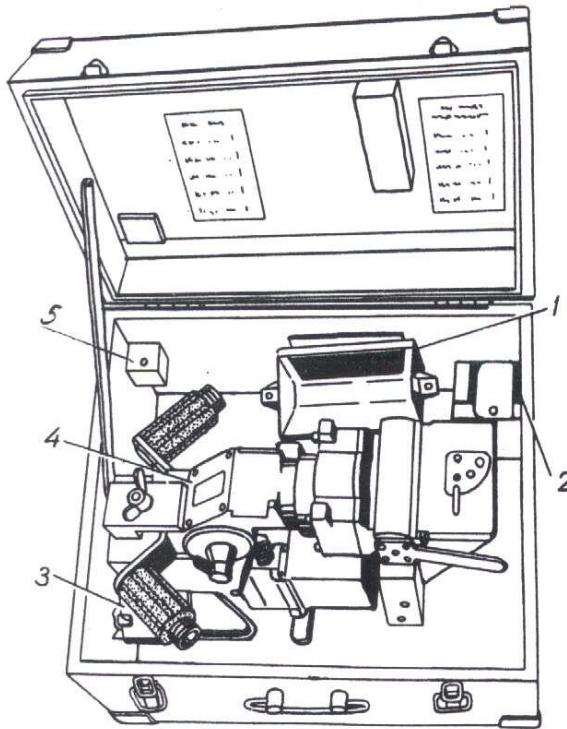

FIG. 107. STORAGE OF NIGHT VISION DEVICE TKH-1C
2. Spare parts and accessories arranged in the stowage box of the night vision device (Fig. 107).